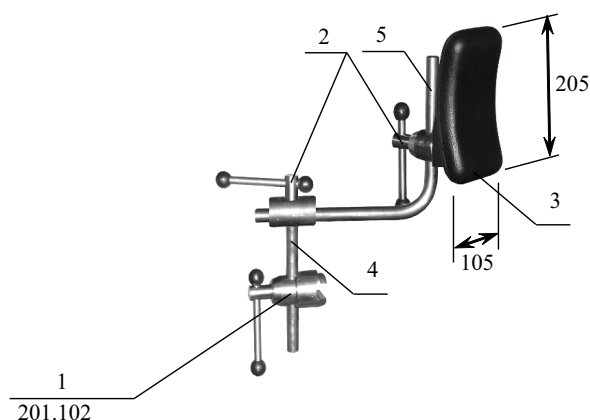

Figure 7. Side support.
7. **Lateral support** (Figure 7). Profiled 105x205 (mm) molded urethane foam pad 3 with stainless Z-bar support and fasteners for mounting on the table guide rail. Complete with clamp 201.102. The position is adjusted along the table top, in height and depth, and rotates around two vertical axes of the Z-shaped support.